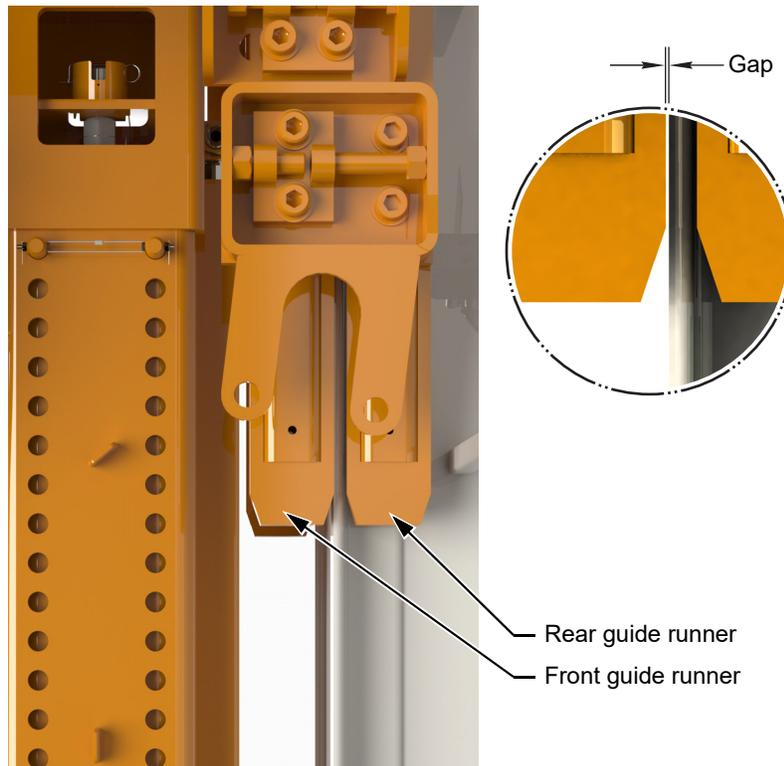

Figure 2: Top drive guide runners gap
2. When the top drive is installed and laying flat, inspect to ensure the overall gap is an 1/8" to 3/16" (3.2 mm to 4.8 mm) at the following locations, see Figure 2: